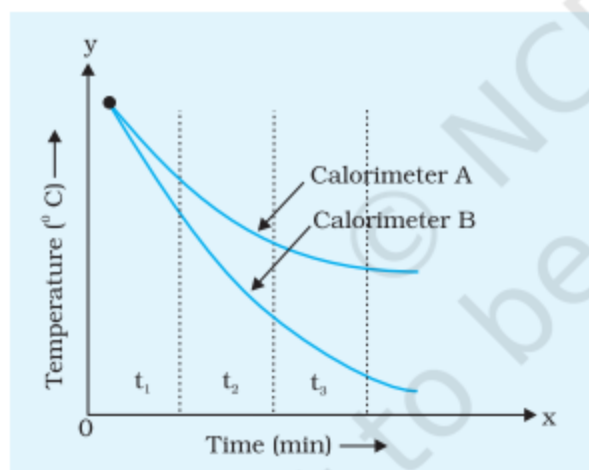

Fig. A 12.2: Cooling curve for water cooled in calorimeters A and B. Surface area of water is more for calorimeter B than for the calorimeter A
7. Record your observation in Table A 12.1. Plot graphs between θ_A versus time and θ_B versus time for both the calorimeters on the same graph paper (Fig. A 12.2).